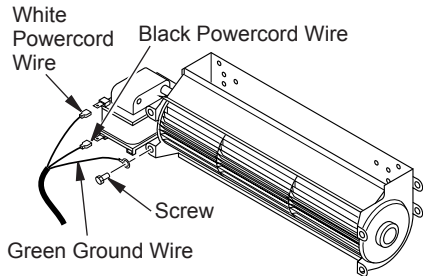

Figure 14 - Removing Wires from Blower
3. Disconnect power cord wires from blower motor (if connected) (see Figure 14).
4. Disconnect green ground wire from blower housing (if connected) by removing screw holding wire terminal (see Figure 14).
10. Attach the terminal ends of the white and black power cord wires to the terminals on the blower motor (see Figure 14). Push firmly.
- Attach the terminal end of the green power cord wire to the front tab of the blower housing using screw provided (see Figure 14, page 6).